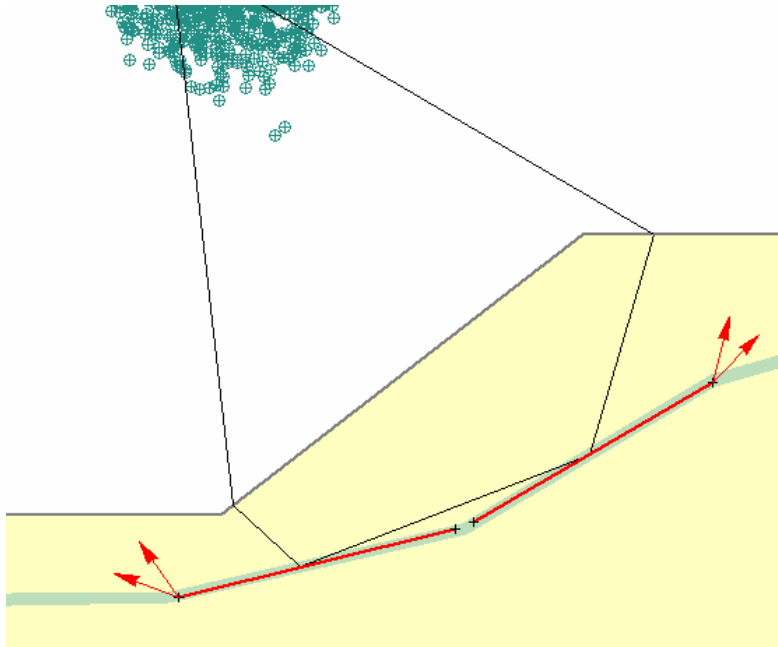

Figure 8: Slip surface generated by improperly defined Block Search within non-linear weak layer.
- Because each Block Search Line only generates a single point along the slip surface, the resulting section of slip surface which joins the two points, is, for most of the surfaces generated, actually OUTSIDE of the weak layer. This is illustrated in Figure 8.